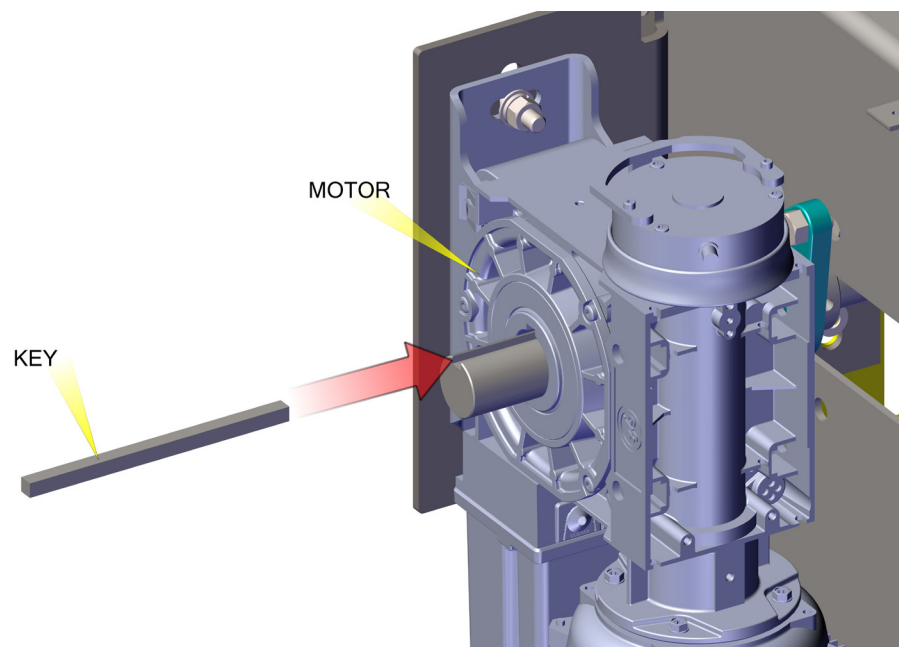

Figure 12
- Insert the key into the keyway, as shown in **Figure 12**.